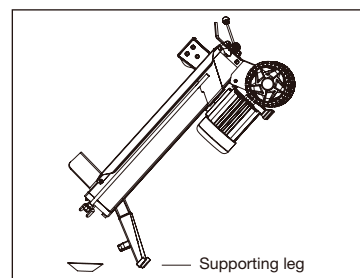

Fig. 8
3. Turn the log splitter and let it stand on the supporting leg to drain the hydraulic oil off (Fig. 8).